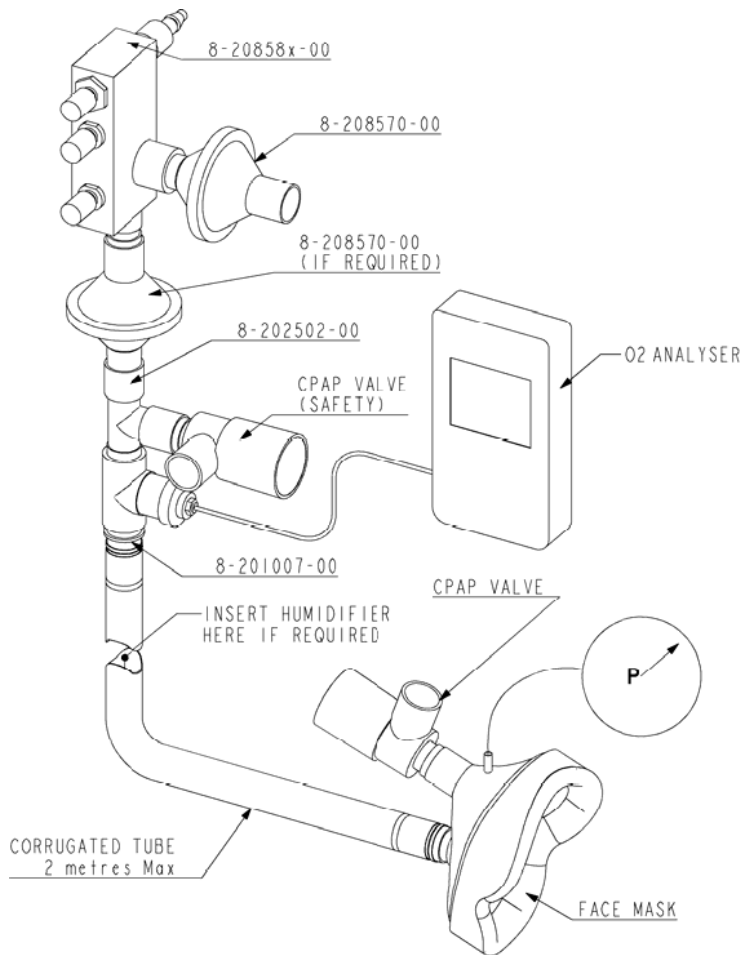

Figure 2. Dual-port mask, oxygen probe with integrated tee piece
- Notes to Figures 2 through 5 9
1. Select a sealing face mask or endotracheal (ET) tube as the patient connection. Ensure that the mask fits comfortably, seals the bridge of the nose, and fully covers the nose and mouth.
3. Assemble the circuit according to Figures 2 through 6, depending on the mask, oxygen analyzer, pressure gauge or monitor, and humidifier you are using. As you assemble the circuit, please note:
Notes to Figures 2 through 5
The notes below apply to Figures 2 through 5 above:
- Figures 2 through 5 show how to assemble the WhisperFlow system and WhisperFlow accessories. The WhisperFlow unit should only be used with the accessories supplied by the manufacturer, Respirationics, or its authorized agent. In particular, the face mask has an integral one-way valve, which prevents exhalation into the delivery tubing in the event of no fresh gas flow. When used with a tee-piece however, exhalation into the delivery tubing will result in CO₂ rebreathing, and may result in asphyxia.